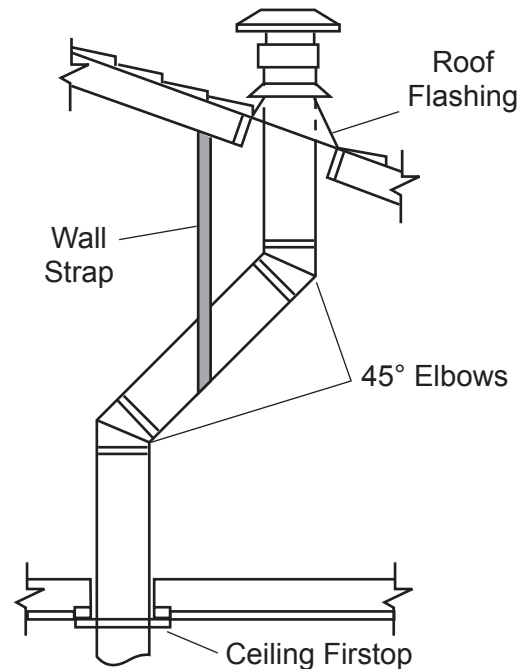

Figure 22 - Offset with Wall Strap and 45° Elbows
1. Determine the route your vertical venting will take. If ceiling joist, roof rafters or other framing will obstruct the venting system, consider an offset. See *Figure 22* to avoid cutting load bearing members.
NOTE: If an offset is needed to avoid obstructions, you must support the vent pipe every three (3) feet. Use wall straps for this purpose. See Figure 22, page 20. Whenever possible, use 45° elbows instead of 90° elbows. The 45° elbow offers less restriction to the flow of the flue gases and intake air.
5. Place the flashing over the pipe section(s) extending through the roof. Secure the base of the flashing to the roof and framing with roofing nails. Be sure roofing material overlaps the top edge of the flashing as shown in Figure 22, page 20. There must be a 1" clearance from the vent pipe to combustible materials.